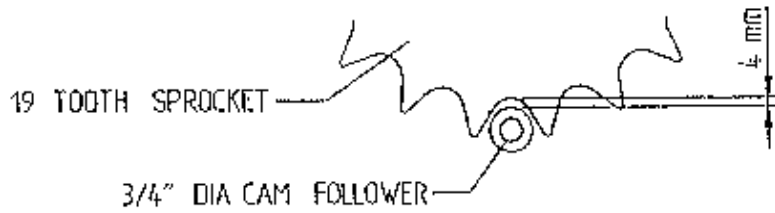

**Fig 10**
2. The brake spring is extended so that there is a 0.50mm gap between its coils (Fig 10.).
3. Set the gap between the brake trailing arm roller and the floor to 5 - 7 (fig. 10). Note: This gap will decrease as the brake lining wears. If the spring is adjusted this distance must also be reset.